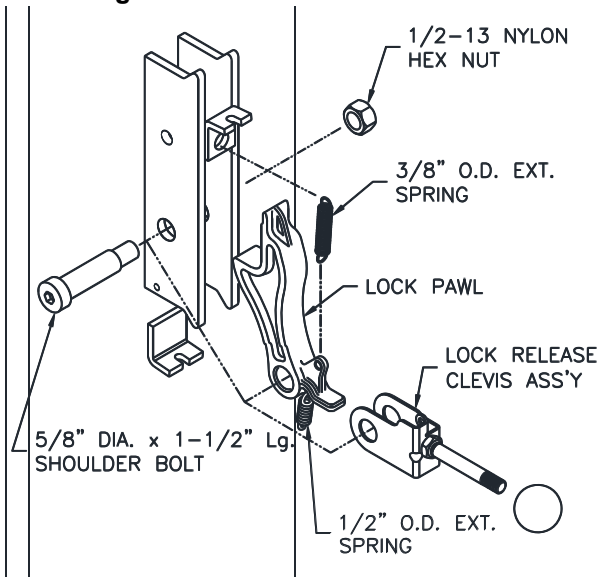

Fig. 6 – Locking Pawl Assembly
- 8) Attach 1/2" O.D. extension spring to hole located on bottom side of both supplied lock pawls, **Fig. 6**. Install lock pawl and lock release clevis on both columns using 5/8" diameter x 1 1/2" lg shoulder bolt and 1/2"-13 nylon lock nut. Attach 3/8" O.D. extension spring to upper hole in locking pawl and other end to hole in bracket welded to column as shown in **Fig 6**.